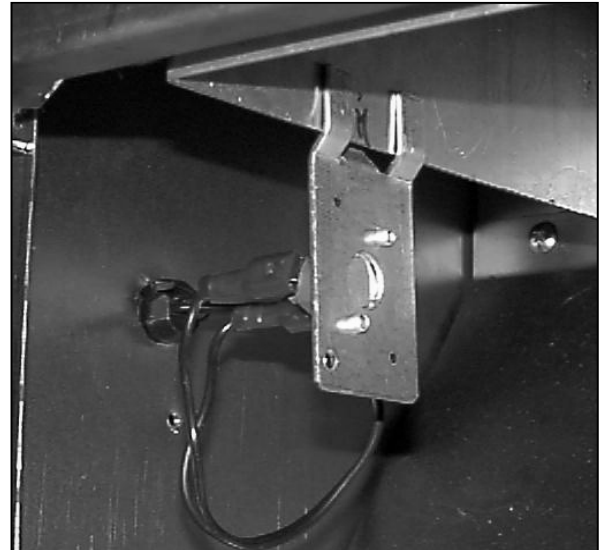

Figure 2: Blocked Vent Switch
- 4) The AWI, TWI, CWI, BSI, Series 16 and some Series 32 Boilers are equipped with a blocked vent shut-off switch (Figure 2). This switch will shut the boiler down in the event that there is an excessive blockage in the vent system. This switch has a reset button, which must be pressed before the boiler can be restarted.